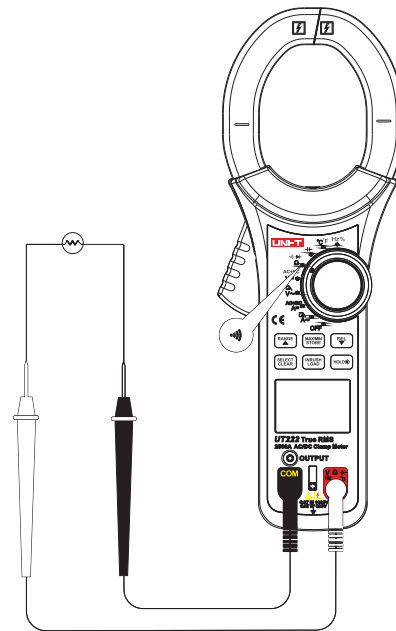

Figure 7
4. Circuit on-off measurement ㉑) (See Figure 7)